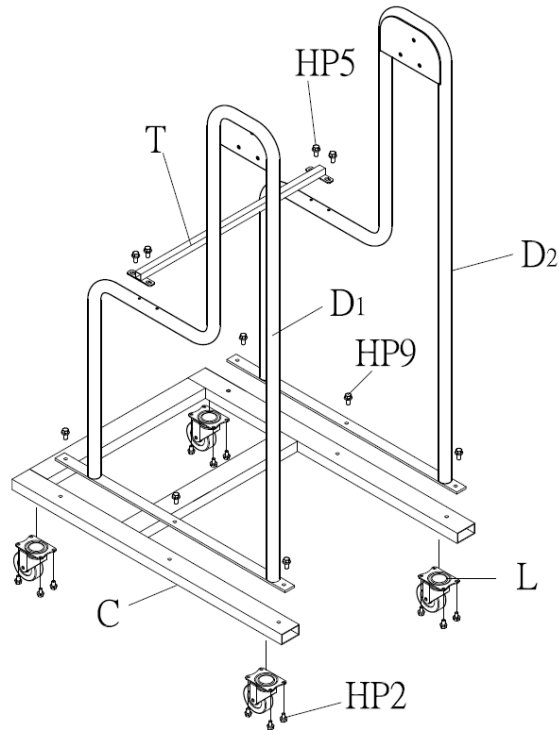

Figure 3
1. Install four casters (L) to base (C) with pan head screws (HP2). See Figure 3.
2. Install left and right stands (D₁, D₂) to base (C) with flange head screws (HP9).
3. Install stand support (T) to stands with flange head screws (HP5).